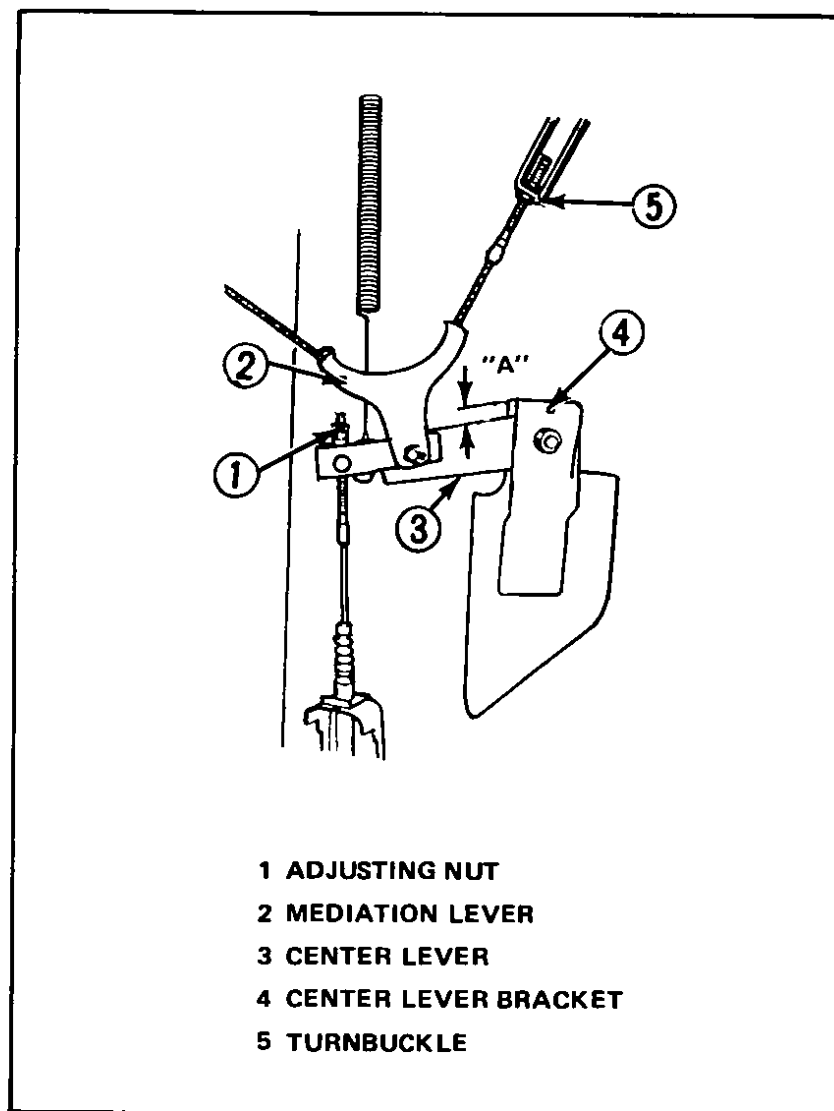

Fig 119 Adjusting parking brake – Model 610 sedan and hardtop
- 4 On sedans and hard tops clearance "A", Fig 119, should be 5 mm (0.197 in)